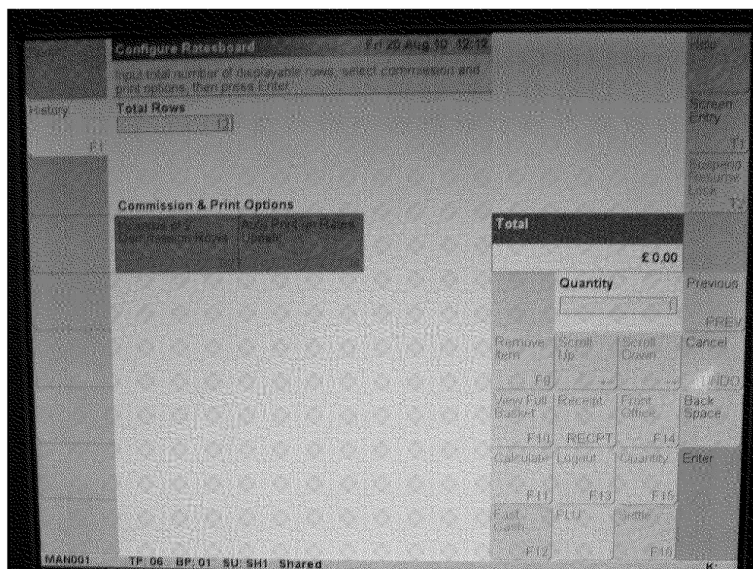

Figure 18
There will be a LAN cable connected to the LAN socket marked in Figure 18 above, linking this counter to the branch router and other counter(s) in the Post Office Branch.
- 6) The Branch Manager should touch the 'Configure' icon- keyboard 21 under Ratesboard to commence the Rate Board configuration process. The Branch Manager will first be asked to input the number of rows on the Rate Board connected to the Counter Position (See Figure 18 below)
- 7) The Branch Manager should enter the number of rows to correspond with the number of rows on the Rate Board attached to the Counter Position. If the default of 12 is incorrect, remove this entry using the 'back space' button on the keyboard or by touching the Total Rows icon on the screen, then use the number pad to enter the correct number of rows and press 'Enter' on the keyboard. Under Commission and Print Options the manager should decide if the last 2 rows should be reserved as commission lines (See Figure 18 above). Touch the icon or keyboard 32.
- 8) The Branch Manager will then be also be asked whether to "Auto Print on Rates Update, (see figure 18 above).